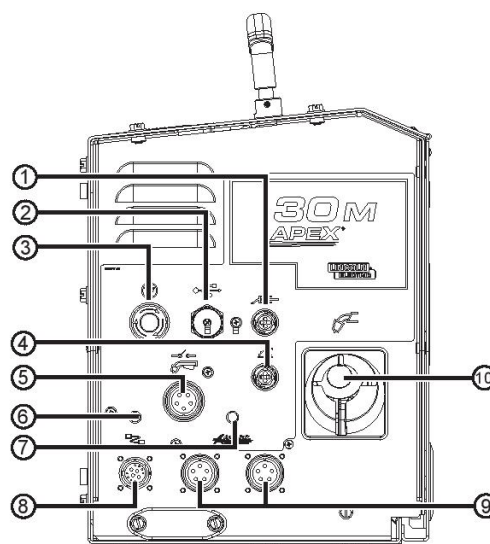

FIGURE 2 - Front Panel
The status of the system can be monitored on the front panel – see **FIGURE 2 - Front Panel**. Additionally, the front of the control has a halt button, two connections for pendants, a weld head connector, and a USB port.
For all front panel connections – see **FIGURE 2 - Front Panel**.
This is an optional connection. By default the work is sensed directly from the power source output studs. For the remote Work Sense lead to be used, a separate Work Sense lead must be connected between the power source and connection 1 on the APEX 30M Back Panel. See **FIGURE 2 - Back Panel on page B-2**.
If the electrode sense is set to remote (up) there must be a sense lead cable connected to connection 4 on the front panel – see **Figure 2 - Front Panel**.
1. **Work Sense Lead Pass Through** - Used when the work sense lead signal is passing through the APEX 30M. This connection is optional and must be used in conjunction with a Work Sense lead connected to connection 1 on the APEX 30M front panel – see **FIGURE 2 - Front Panel on page B-1**.